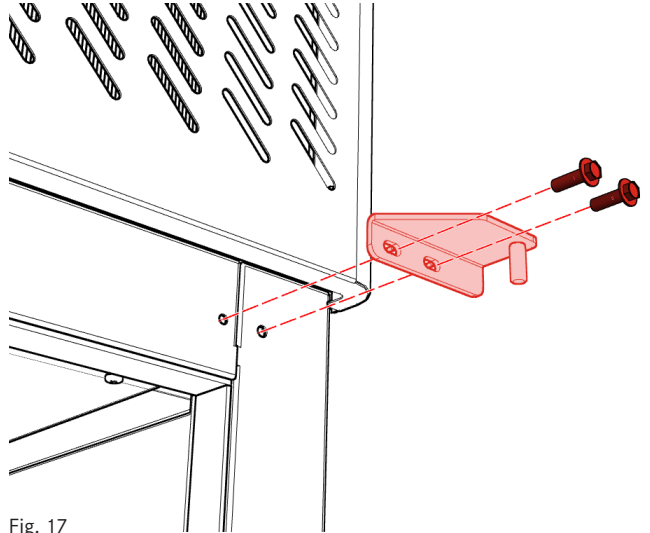

Fig. 17
Remove two (2) screws fastening top-right hinge to front of unit (Fig. 17). Reinstall screws into empty holes.